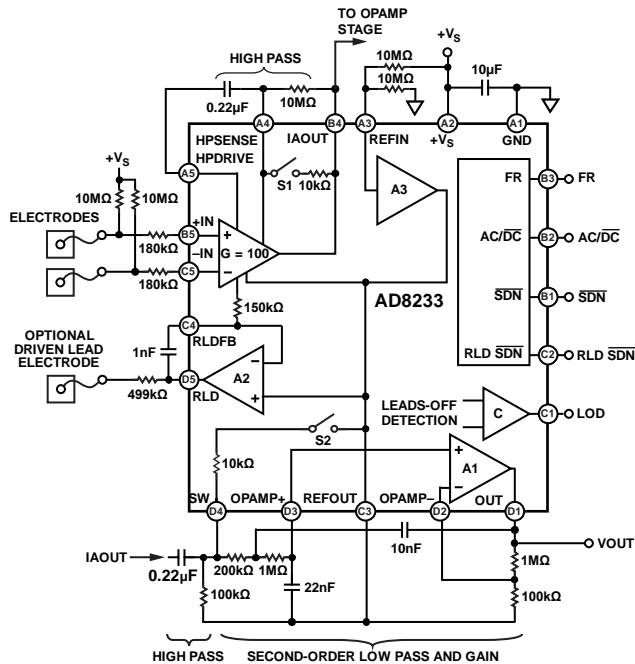
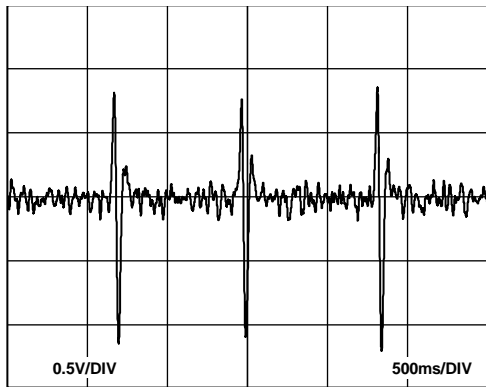

Figure 2. AD8233CB-EBZ Default Configuration
Figure 3. AD8233CB-EBZ Expected Output Signal Measured at the OUT Terminal
A simplified schematic is shown in Figure 2 of the AD8233CB-EBZ evaluation board default configuration. See the Evaluation Board Component Selection section for the full schematic. The expected output signal is measured at the OUT terminal, shown in Figure 3.
2. Connect the left arm (LA) terminal and the right arm (RA) terminal to a signal source such as an ECG signal generator.
3. Connect the right leg (RL) terminal to a signal source such as an ECG signal generator. The RLD is available via the RLD terminal.
5. The output signal is available on the OUT terminal. The expected output signal is shown in Figure 3.
It is possible the gain and filtering must need adjusting depending on the location of the electrodes and the application. Narrow bandwidths offer the highest rejection to motion artifacts and other external interferences; however, these bandwidths can introduce distortion into the ECG signal as shown in Figure 3. For more information, refer to the AD8233 data sheet.